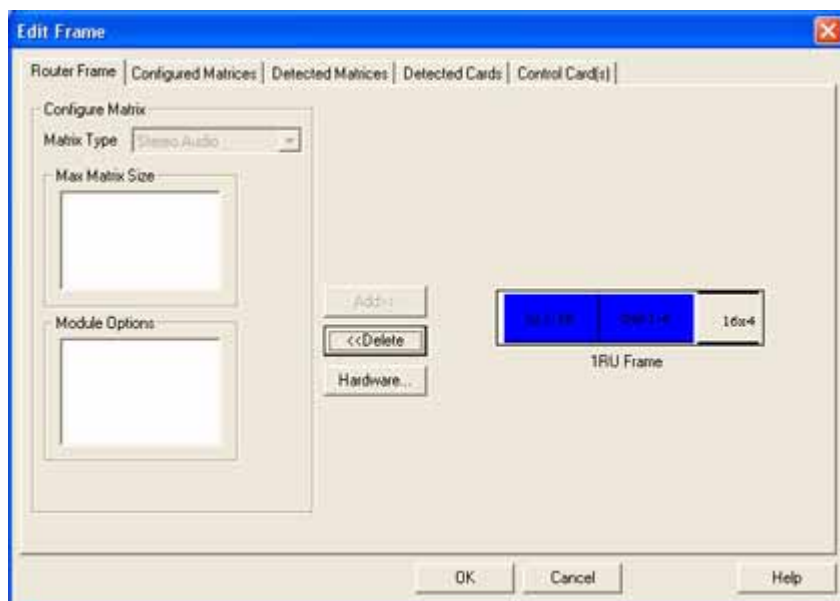

Figure 10-3. Router Frame Tab
6. Select the **Router Frame** tab. Panacea module information such as matrix size, type, and module options will be displayed (see Figure 10-3). These will vary, depending on your Panacea's matrix type.